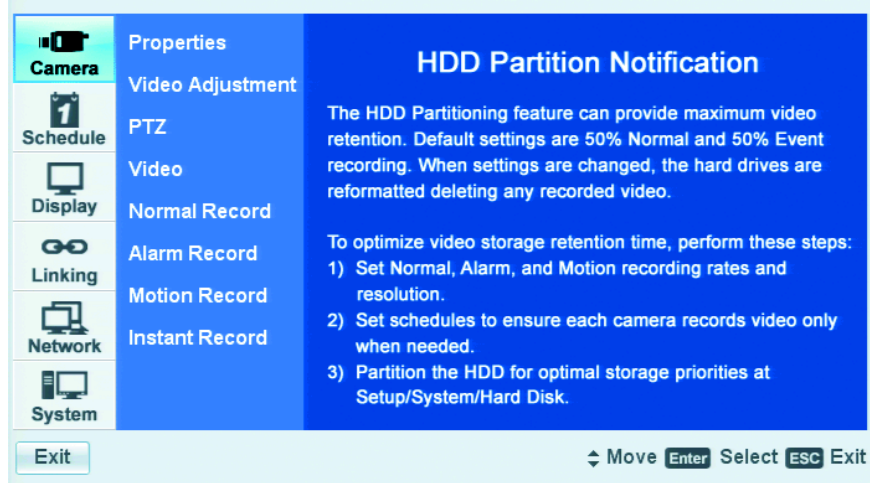

Figure 3. Camera Menu HDD Partition Notification
**WARNING:** Before you use the DX4500/DX4600 to record video, refer to Figure 3 and read the HDD Partition Notification.